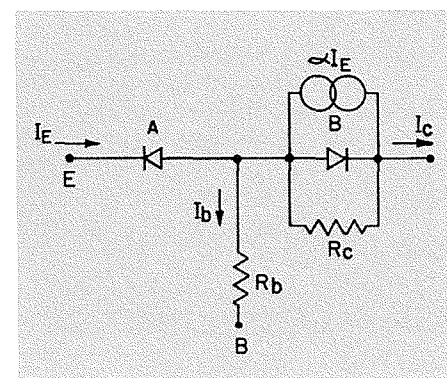

Figure 3. Illustration of the two-diode concept of a transistor.
One is quite justified in looking at a transistor in terms of the two-diode concept, refer to Figure 3. Therefore, assuming diode A to be forward biased and diode B to be reverse biased, as would be the case if we were to operate the transistor as a linear amplifier, the current through diode A will conform to equation (1). Let us take a closer look at Figure 2.